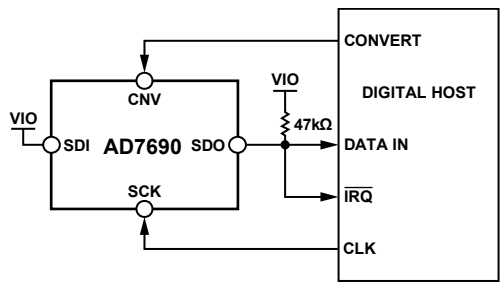
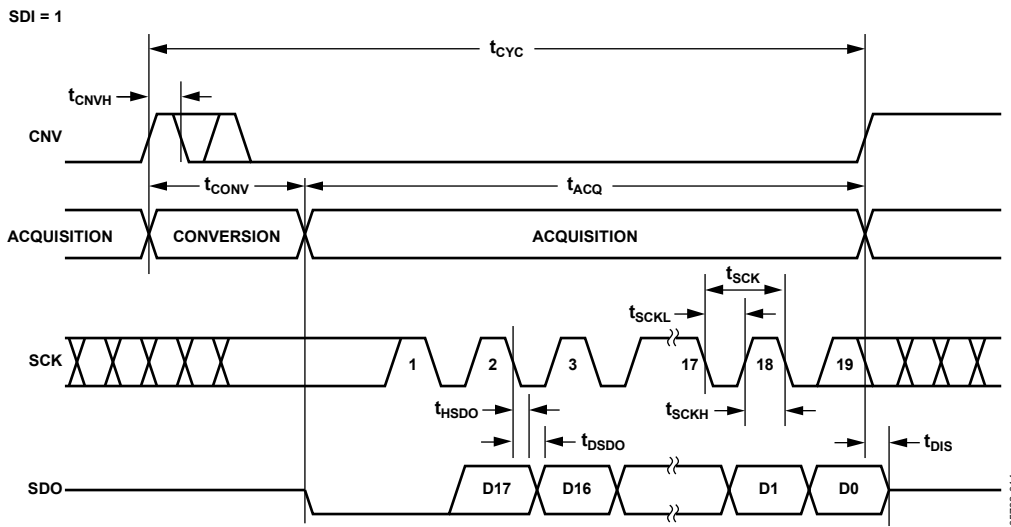
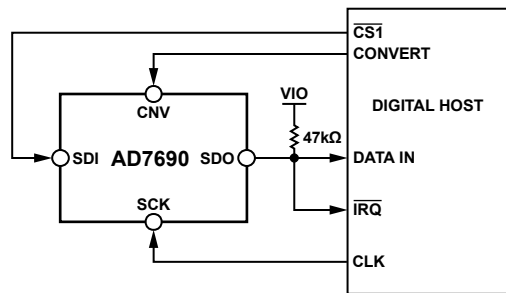
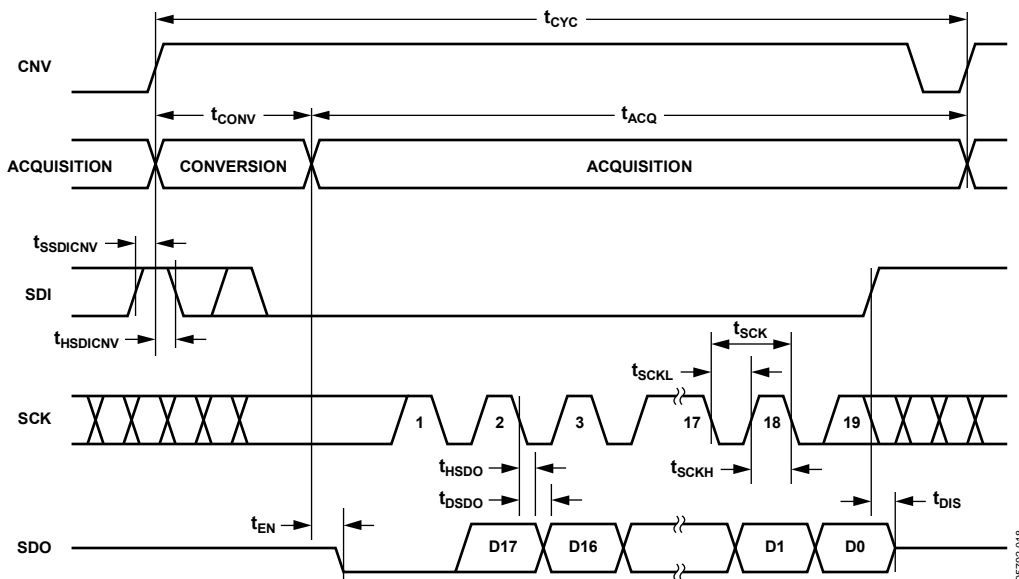

Figure 36. 3-Wire $\overline{\text{CS}}$ Mode with Busy Indicator Connection Diagram (SDI High)
Figure 37. 3-Wire $\overline{\text{CS}}$ Mode with Busy Indicator Serial Interface Timing (SDI High)
Figure 40. 4-Wire \overline{CS} Mode with Busy Indicator Connection Diagram
Figure 41. 4-Wire \overline{CS} Mode with Busy Indicator Serial Interface Timing
- In \overline{CS} mode if CNV or SDI is low when the ADC conversion ends (see Figure 37 and Figure 41).
The connection diagram is shown in Figure 36, and the corresponding timing is given in Figure 37.
The connection diagram is shown in Figure 40, and the corresponding timing is given in Figure 41.